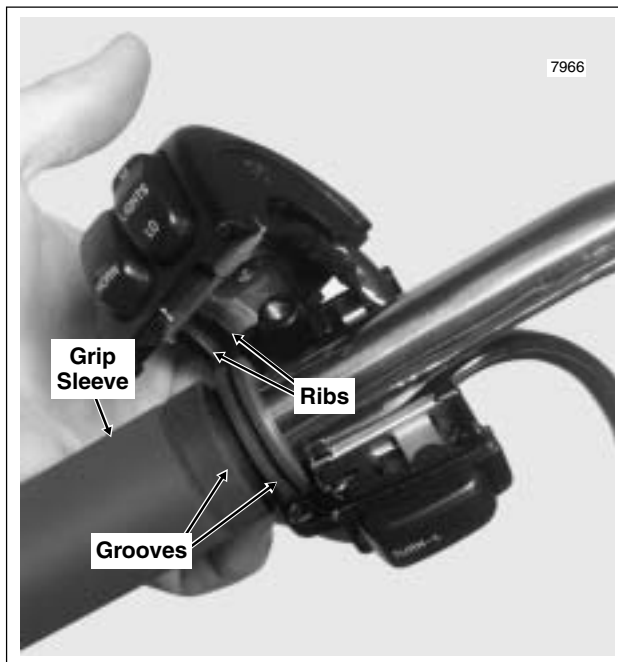

Figure 8-89. Install Left Handlebar Switch Housings
2. Install upper and lower switch housings on handlebar. Be sure that ribs on outboard side of switch housings fit in grooves molded into grip. See Figure 8-89.